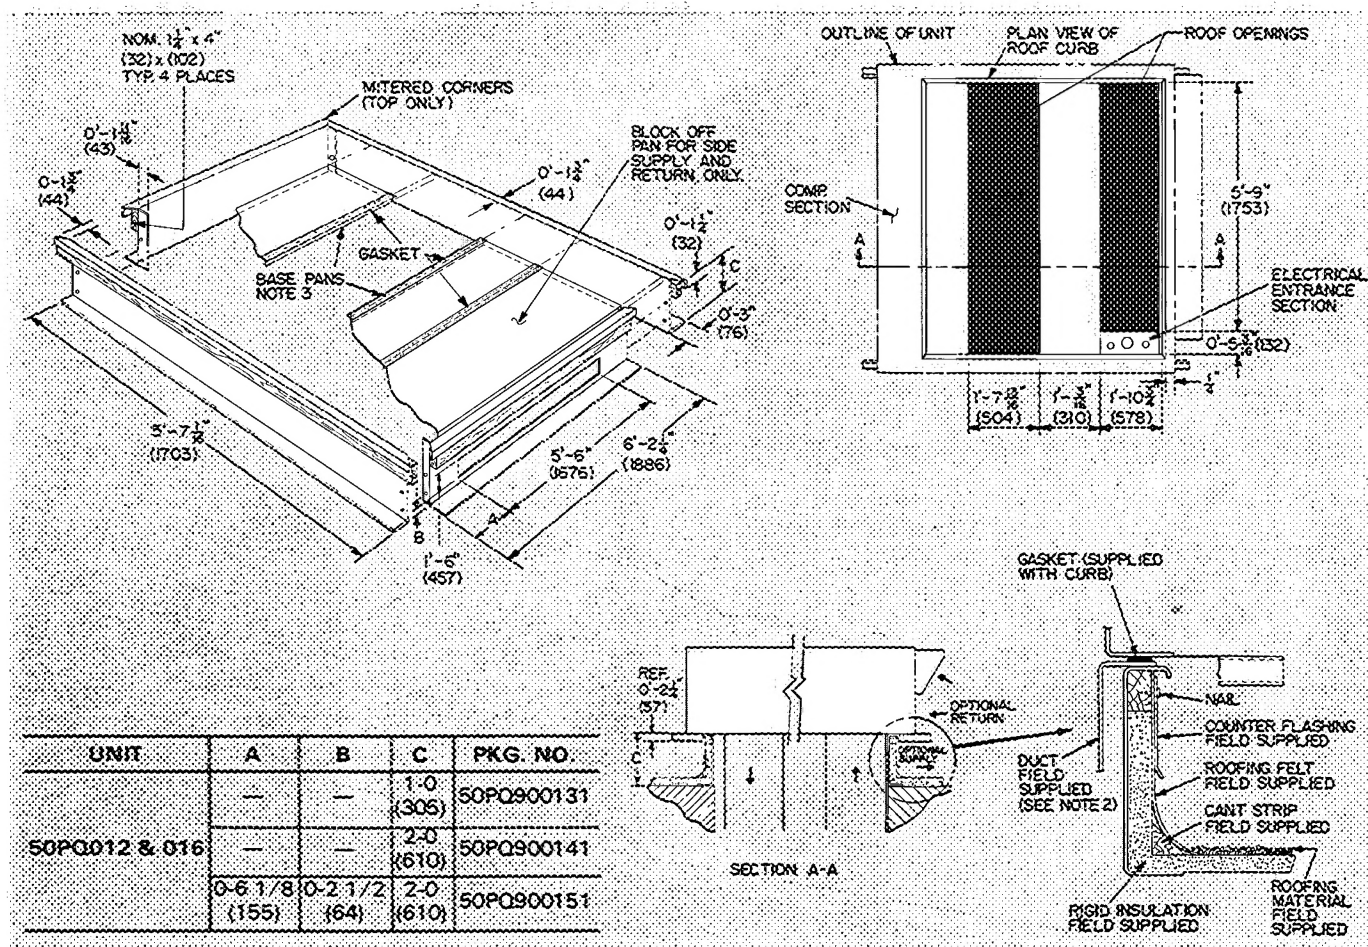

Fig. 2 — Roof Curb Details — 50PQ012,016
**Roof Curb** — Assemble and install accessory roof curb in accordance with instructions shipped with this accessory. Refer to Fig. 2. Accessory roof curb and information required to field fabricate a roof curb of 2 in. x 12 in. planks is shown in Fig. 2. Install insulation, cant strips, roofing and flashing as shown. Ductwork can be installed to roof curb before unit is set in place. Curb should be level. Unit leveling tolerance is  $\pm 1/16$  in. per linear ft in any direction. This is necessary to permit unit drain to function properly.
**Unit Duct Connections** — Unit is shipped for thru-the-bottom duct connections. Ductwork openings are shown in Fig. 2 and 3. Duct connections are shown in Fig. 4. Field-fabricated concentric